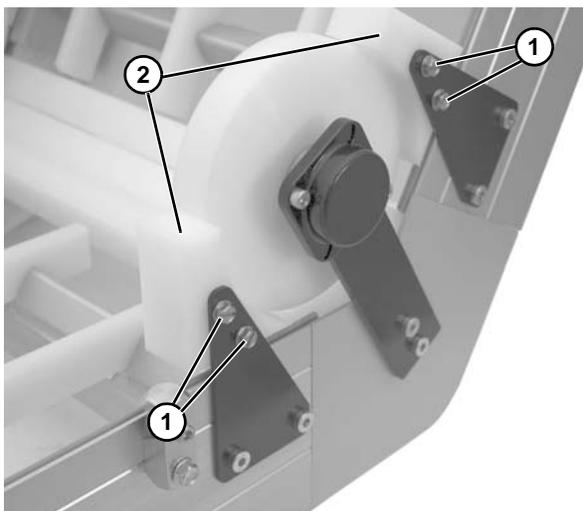

Figure 81
2. Remove two cap screws (Figure 81, item 1) on each side of the knuckle and remove the hold down roller guards (Figure 81, item 2). Repeat on opposite side.